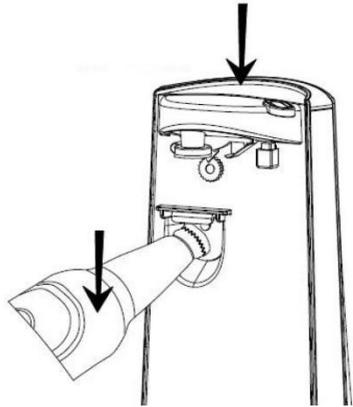

Fig. 4
2. Hold the body of the bottle and position with the cap underneath the top edge of the bottle opener (fig. 4). With your spare hand steady the top of the can opener.